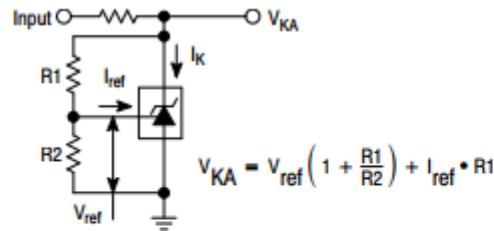

Figure 2. Test Circuit for $V_{KA} > V_{ref}$
- The dynamic impedance Z_{KA} is defined as: $|Z_{KA}| = \frac{\Delta V_{KA}}{\Delta I_K}$. When the device is programmed with two external resistors, R1 and R2, (refer to Figure 2) the total dynamic impedance of the circuit is defined as: $|Z_{KA}'| \approx |Z_{KA}| \left(1 + \frac{R1}{R2} \right)$
6. The dynamic impedance Z_{KA} is defined as $|Z_{KA}| = \frac{\Delta V_{KA}}{\Delta I_K}$ When the device is programmed with two external resistors, $R1$ and $R2$, (refer to Figure 2) the total dynamic impedance of the circuit is defined as: $|Z_{KA}'| \approx |Z_{KA}| \left(1 + \frac{R1}{R2} \right)$